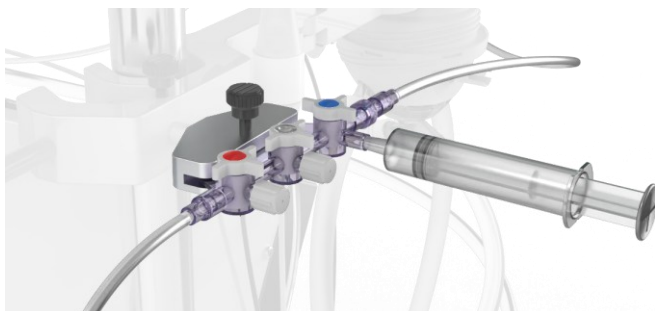

Figure 21 De-air the sample line by aspirating with a syringe. Ensure that the blue valve is in the orientation indicated.
- Open the blue valve on the sample port (Figure 21).